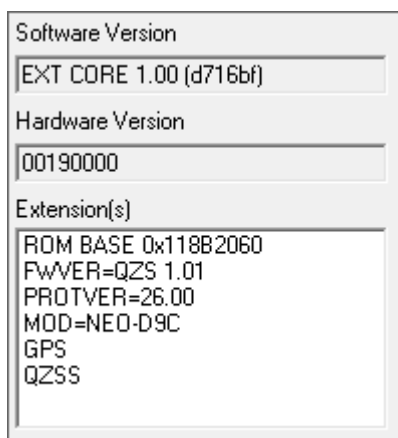

Figure 6: UBX-MON-VER message
- Poll UBX-MON-VER message and check the content as shown in Figure 6 .